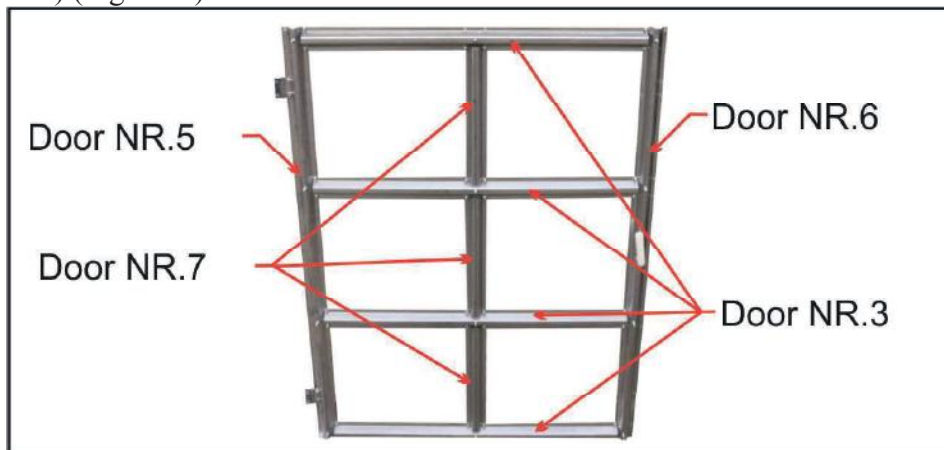

Fig. 24.1
Connect all parts supplied in the set of the lower part of the door (DOOR No. 5; DOOR No. 6; DOOR No. 3) into a rectangle with M5-12 bolts (27) and M5 nuts (30). Tighten vertical parts of the door to the assembled frame (DOOR No. 7) (Fig. 24.1).